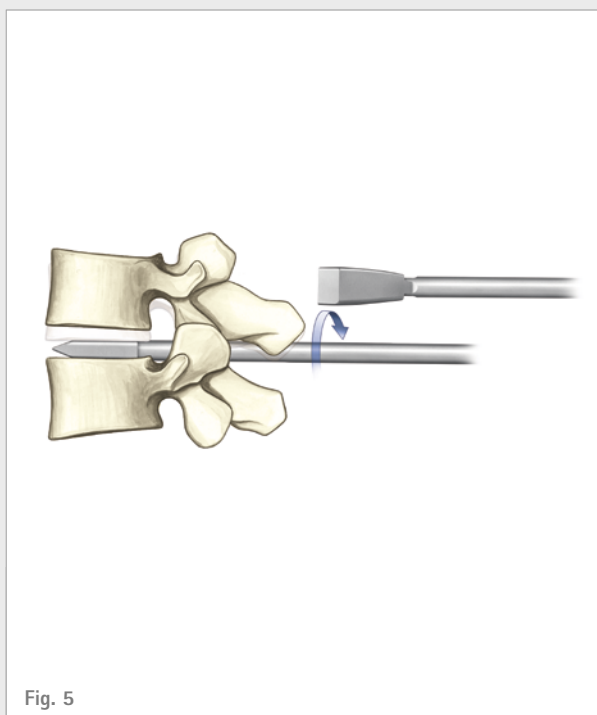

Fig. 5
- Trial implants are available in 0°, 5° and 8° corresponding to the sizes of the implants. Starting with the smallest size the trial implants are inserted horizontally and rotated clockwise (Fig. 5). Stepwise the next heights are inserted until the required distraction has been achieved. The adequate trial implant indicates now the height, the angle and length of the implant to be inserted.